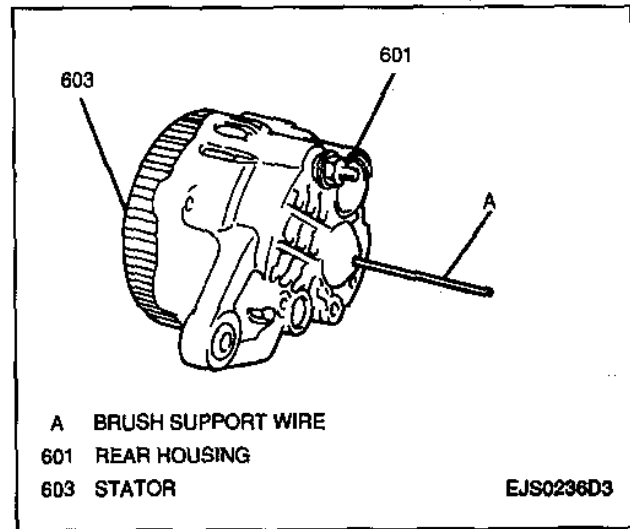

Figure 23—Supporting Brushes With Wire
5. Support brushes with a wire inserted through the hole in the rear housing (Figure 23).